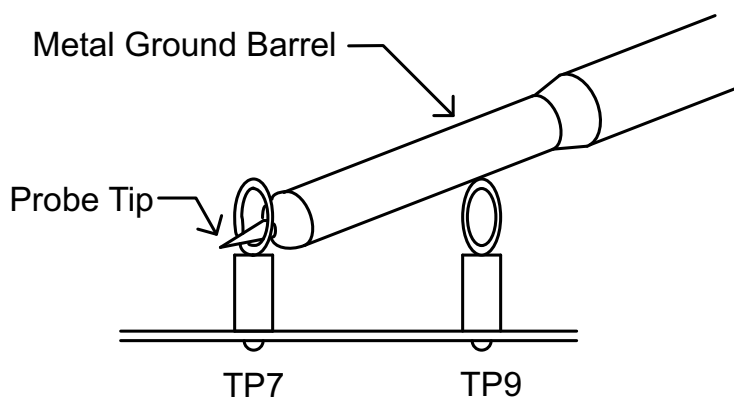

Figure 5-1. Tip and Barrel Measurement for VOUT Ripple
- Oscilloscope** A digital or analog oscilloscope measures the output ripple. The oscilloscope must be set for the following: 1-M Ω impedance, 20-MHz bandwidth, AC coupling, 1- μ s / division horizontal resolution, 20-mV / division vertical resolution. Test points TP7 and TP9 measure the output ripple voltage by placing the oscilloscope probe tip through TP7 and holding the ground barrel on TP9 as shown in Figure 5-1. Using a leaded ground connection can induce additional noise due to the large ground loop.